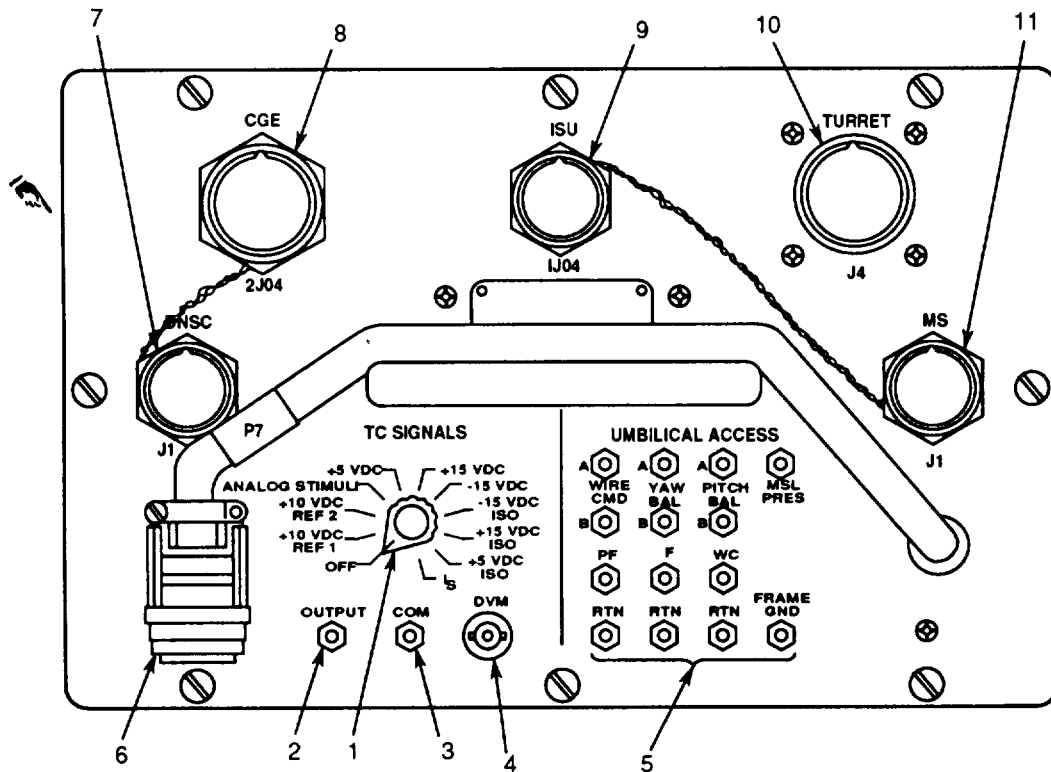

Figure 2-3. ABOB Front Panel.
*d. Alignment Breakout Box.* The controls and indicators on the front panel of the ABOB (figure 2-3) are described in table 2-3.